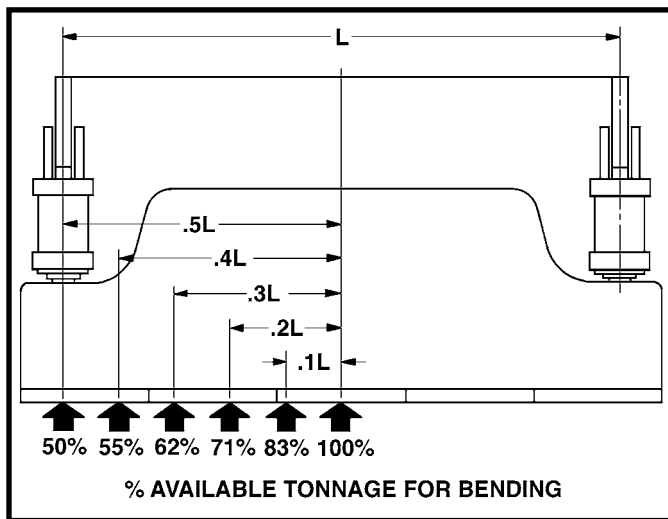

FIGURE 4-8 Off-center load capacity
Most forming and punching jobs are located on the centerline of the machine where the full rated machine capacity is available. When the load is not located at center of machine, only a portion of the total capacity is available as shown in Figure 4-8.
To determine the available tonnage at a point between the centerline and either housing, the ratios shown in Figure 4-8 can be used. For example, a 135AF x 10' Press Brake is approximately 128" (3251mm) from housing to housing (L). A point of .3 of this length is 38.4" (975mm) (.3 x 128"/3251mm). Then at 38.4" (975mm) from the centerline of the machine 62% (83.7 tons/745kN) of the tonnage is available.